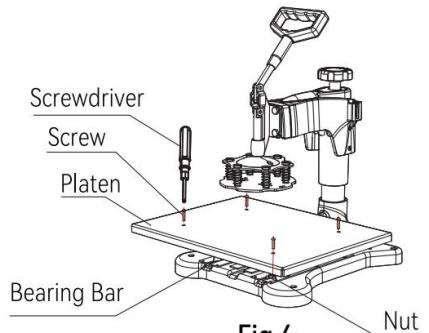

Fig 4
4. Place the table platen flat on the bearing bar, align the platen with the hole in the bearing bar, place the screw, and lock it with a screwdriver (as shown in figure4).